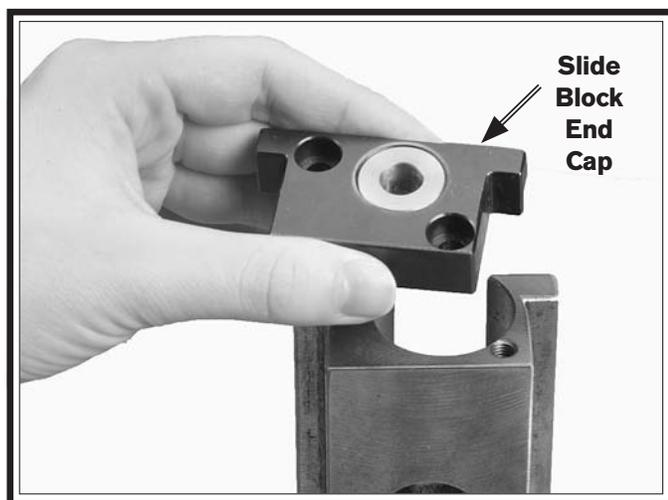

Figure 9. Slide block end-cap removal.
11. Using a 5mm hex wrench, remove the two cap screws that retain the slide block, and remove the slide block end-cap as shown in **Figure 9**.